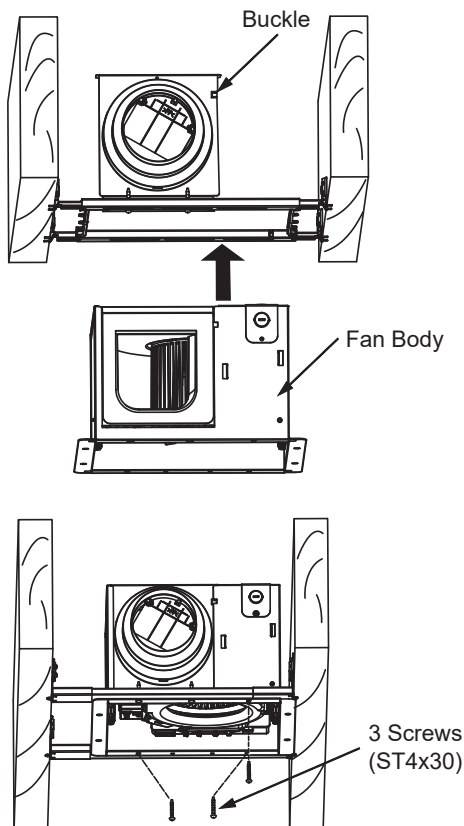

Fig. 5
- Push the fan body upwards until the fan body engages the buckle on the adaptor and secure the fan body by using the other 3 self-tapping screws (ST4X30). See Fig. 5